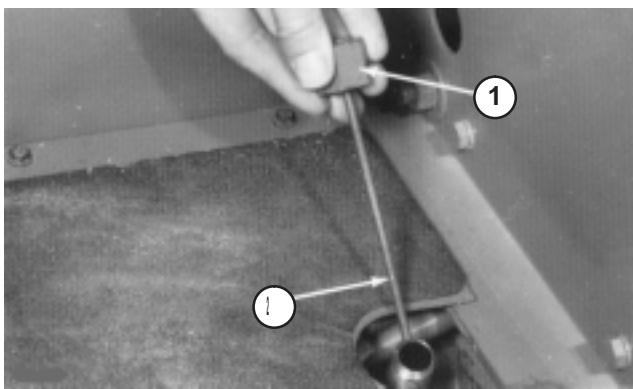

Figure 24
2. Unscrew dipstick cap (Fig. 24) from the filler neck and wipe it with a clean rag. Screw dipstick cap finger tight onto filler neck. Unscrew the dipstick and check level of fluid. If level is not within 1/2 in. (13 mm) from the groove in the dipstick (Fig. 24), add enough fluid to raise level to groove mark. **Do not overfill** by more than 1/2 in. (13 mm) above groove.